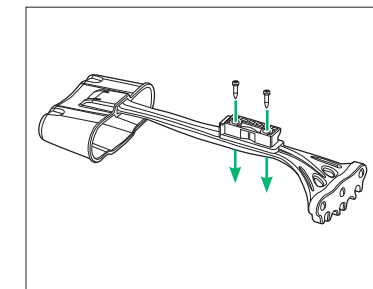

FIGURE 7
- 3a** Screw the quiver mount into the quiver with quiver screws use a screwdriver (not included). (Fig. 7)